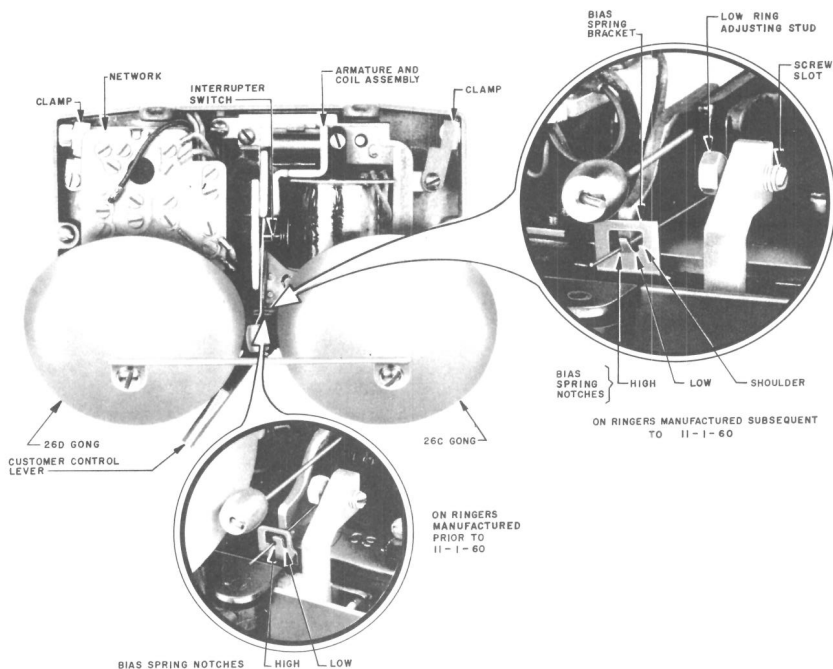

FIGURE 3. F1A Ringer, Components
- 2.01 The F1A ringer is installed when covered by a contact memo (see Fig. 3). Typical installations include: